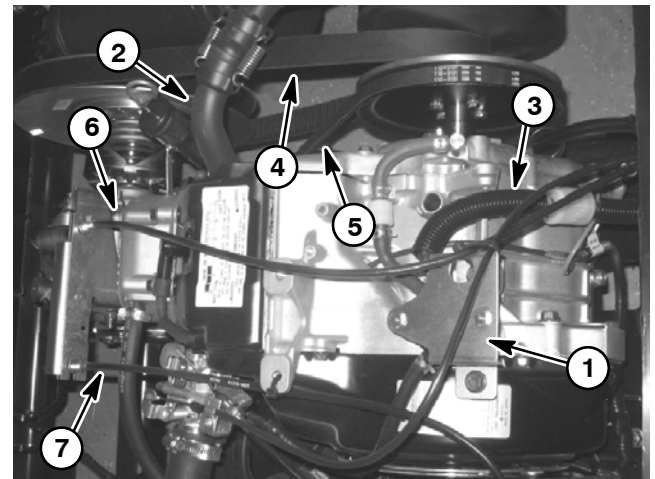

Figure 10
5. Disconnect fuel hose from the fuel pump (Fig. 10). Remove cable tie securing the choke and throttle cables to the fuel pump bracket.
9. Remove cap screw (item 49) and flat washer (item 50) that secure r-clamp (item 51) and shift cables (item 8) to engine. Position shift cables away from engine.
11. Remove four (4) flange nuts and cap screws securing the engine to the engine tray.
- A. Attach a short section of chain between fuel pump bracket lift hole and exhaust manifold (Fig. 10).
A. Attach a short section of chain between fuel pump bracket lift hole and exhaust manifold (Fig. 10).
9. Connect fuel hose to the fuel pump (Fig. 10). Make sure to secure hose with hose clamp.